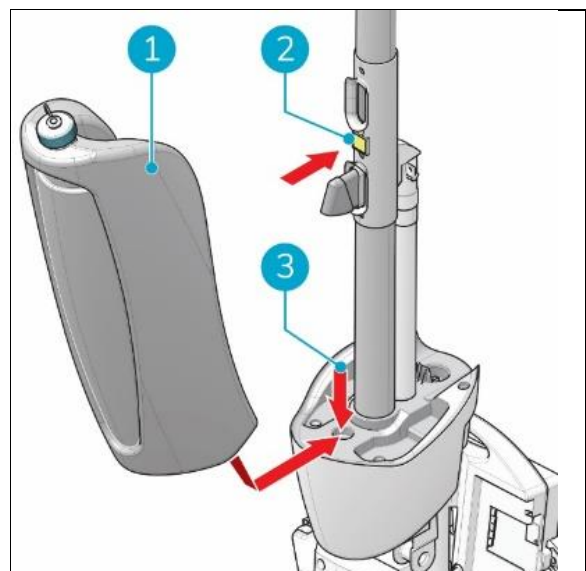

Figure 10
1. Put the bottom of the recovery tank (Figure 10, pos 1 and pos 3) on the front of the i-mop® XL basic.
2. Push the top of the tank into place until you hear a 'click' sound, the magnet (Figure 10, pos 2) will lock the recovery tank into place.